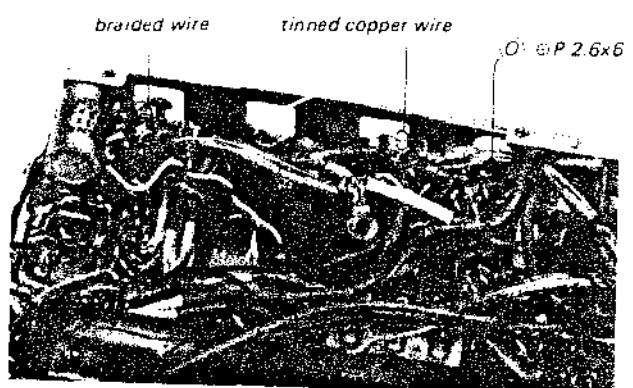

Fig. 2-12
15. Unsolder the braided wire and tinned copper wire indicated in Fig. 2-12.
16. Remove the screw (\emptyset P 2.6x6) marked (O) in Fig. 2-12.